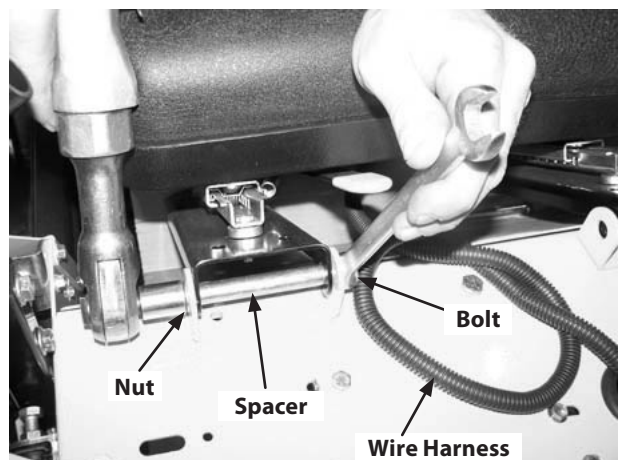

**Figure 3-3**
3. Rotate the seat into position and secure the seat into place with the previously removed shoulder bolts, nuts and spacers. Be careful not to crimp or damage the wire harness while installing the seat. See Fig. 3-3.